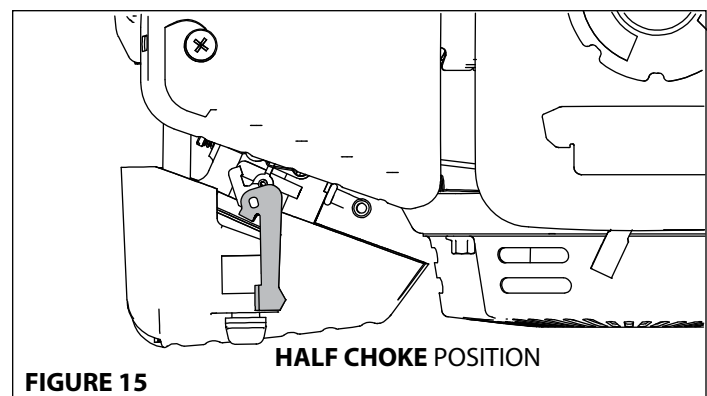

FIGURE 15
- If the engine is warm or the ambient temperature is high, move choke lever to the **HALF CHOKE** position or **RUN** position. **SEE FIGURES 15 AND 16.**
5. After engine begins operating, move the choke lever to **HALF CHOKE**. **SEE FIGURE 15.**